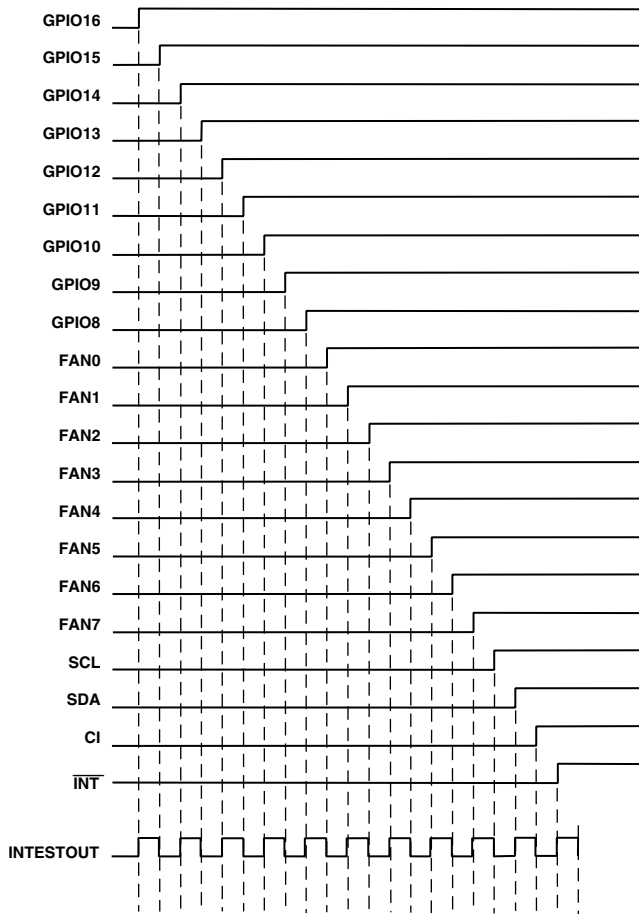

Figure 26. NAND Tree Test Taking Inputs High In Turn
1. Start with all inputs low and take them high in turn, starting with the input nearest to NTEST_OUT (GPIO16/ $\overline{\text{THERM}}$) and working back up the tree to the input furthest from NTESTOUT ($\overline{\text{INT}}$). This should give the characteristic output pattern shown in Figure 26, with NTESTOUT toggling each time an input is taken high.